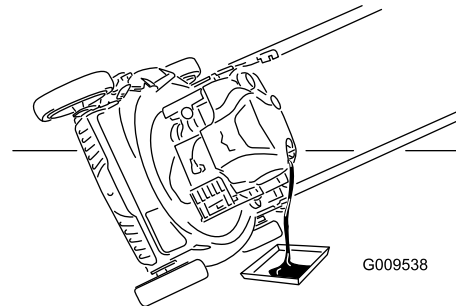

Figure 22
7. Tip the machine onto its side, with the oil-fill tube down, to drain the used oil through the oil-fill tube into the oil-drain pan (Figure 22).